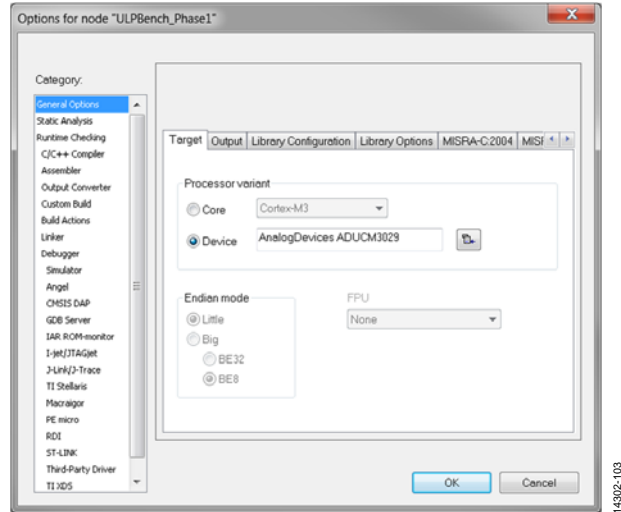

Figure 3. General Options—Target Tab
2. From the **General Options** menu, in the **Target** tab, ensure that **AnalogDevices ADUCM3027** or **AnalogDevices ADUCM3029** is selected as the target in the **Processor variant** pane, depending on the microcontroller used (Figure 3).